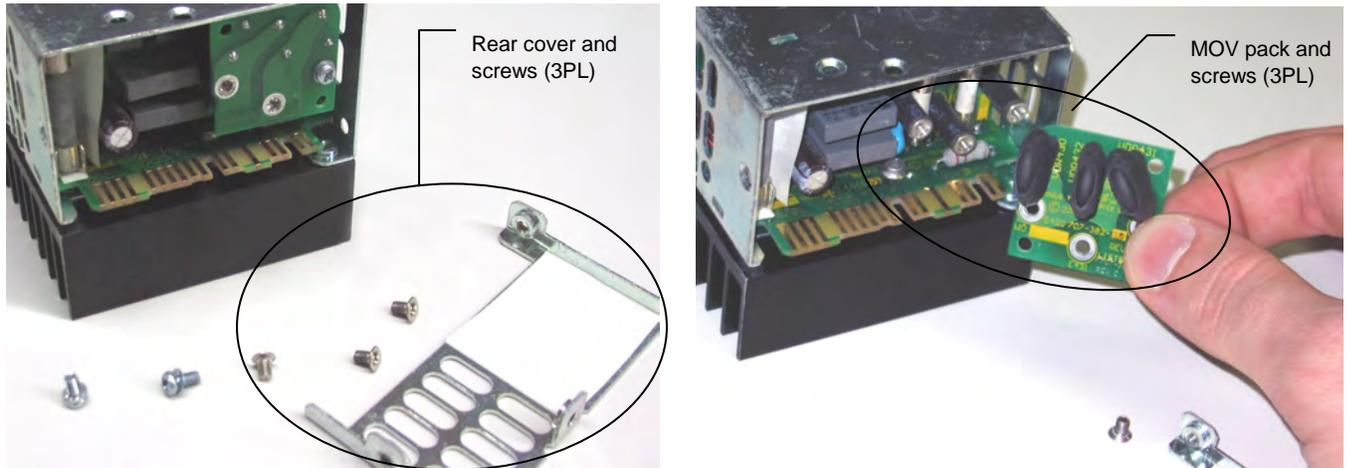

Figure 15—Showing MOV removal and replacement
3. Turn the module around to face the back of the unit and remove the three (3) screws securing the rear grill/cover. Remove the rear cover. See Figure 15: